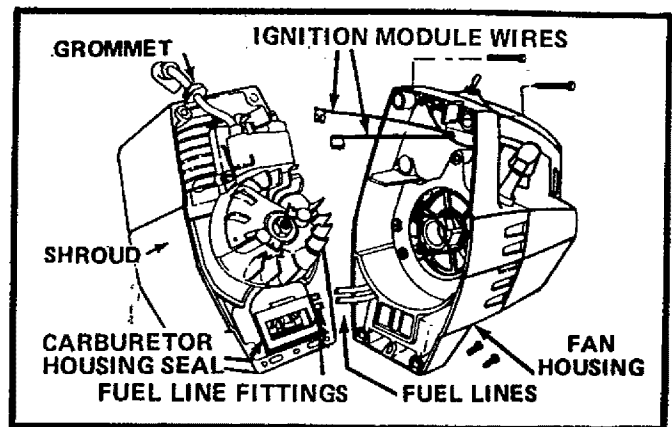

Figure 28
2. Remove the four (4) screws from fan housing. Figure 28.
3. Carefully separate fan housing from shroud about one (1) inch.
5. Disconnect ignition module wires. Figure 28.
NOTE: While the unit is disassembled, inspect the carburetor housing seal and replace if worn. Figure 28.